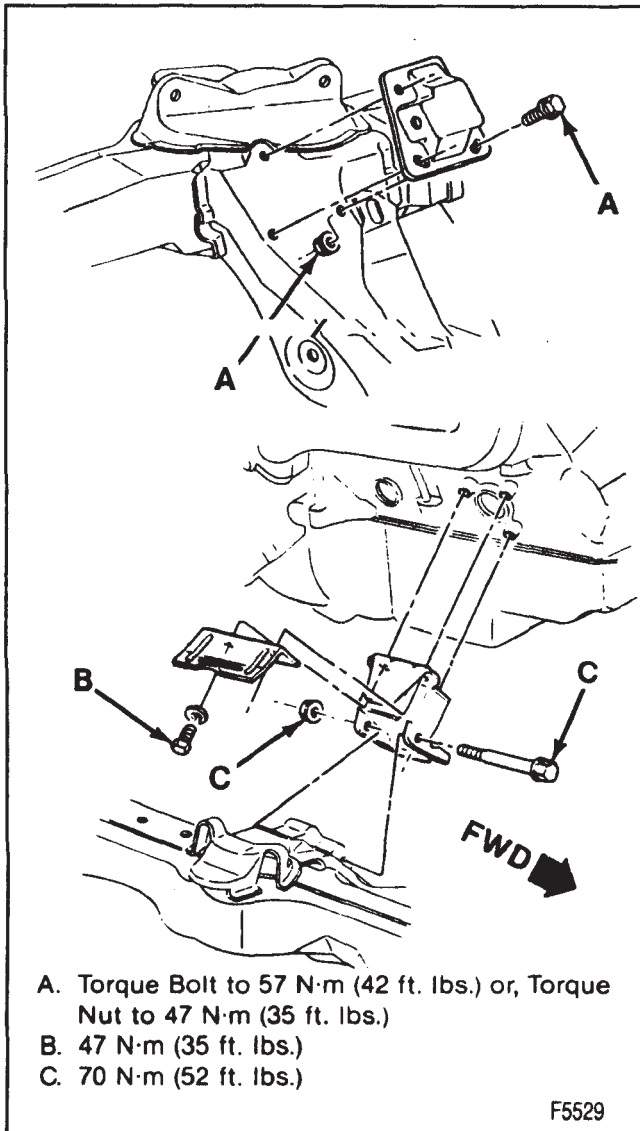

Figure 53—Front Engine Mountings
## Remove or Disconnect (Figure 53)
**↔** Install or Connect (Figure 53)
**Install or Connect (Figures 53 and 54)**
- Bolts to specification. Refer to figures 53 and 54.